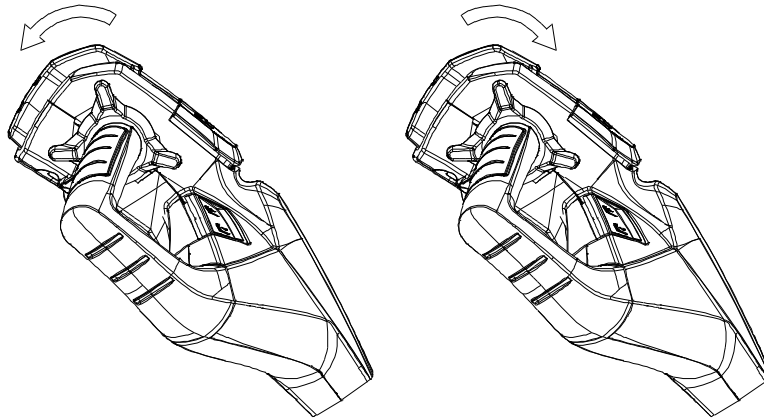

Fig 3
- Rotate the accelerate knob ,make the direction same as the truck movement, figure 3